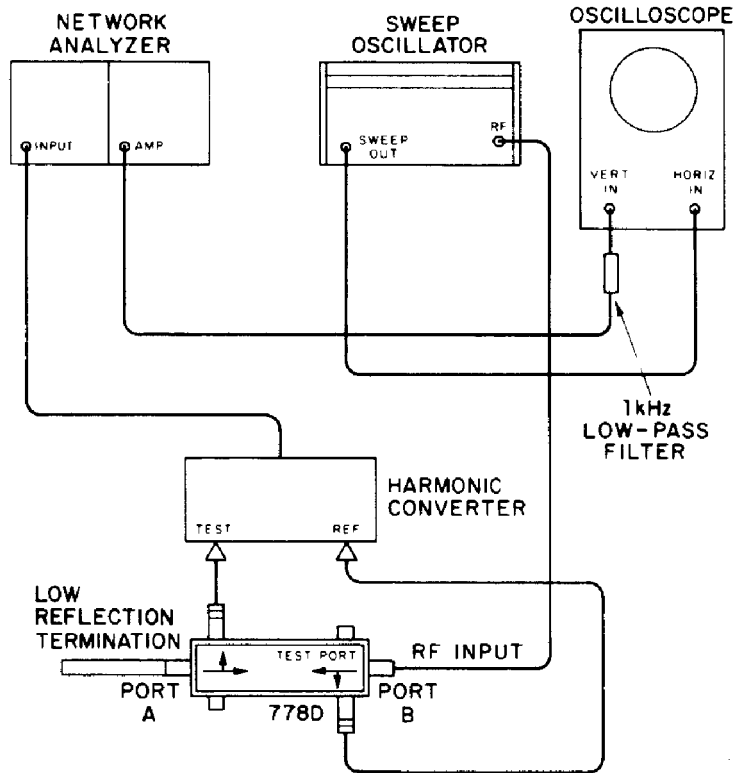

Figure 8 Swept-Frequency Directivity Setup
1. Connect the equipment as shown in Figure 8 on page 12 (the purpose of the 1 kHz low-pass filter input to the oscilloscope is to reduce noise).
8. Put the low reflection termination back on the coupler as shown in Figure 8.
9. Increase the network analyzer TEST CHANNEL GAIN (DB) by the amount of the directivity specification for this frequency range.